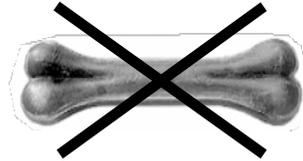

Fig.21
- The slicer has been designed for cutting fresh, cured and cooked meat, sausages and unfrozen vegetables, unfrozen up to a maximum of 20°C and boneless (Fig. 21). Any other use is considered improper and therefore dangerous.